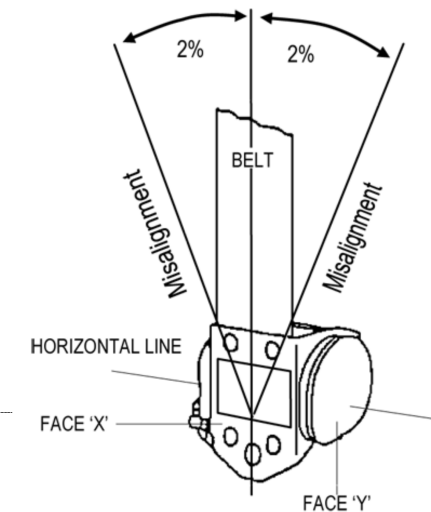

Fig. 5
8. All retractors must be mounted at the retractor's operating angle before the Seat Belt webbing can be extracted from the retractor. In order to secure the correct functioning of the sensing mechanism, the retractor must be mounted $\pm 2^\circ$ of the X and Y planes (**Fig. 5**).